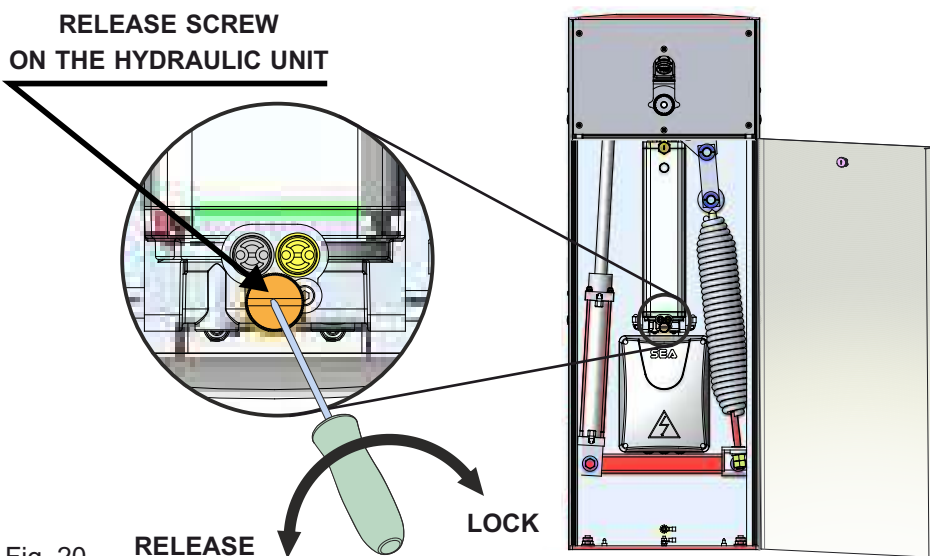

Fig. 20
- Turn the release screw 180° counter-clockwise with a screwdriver (*the screw is on the front side of the hydraulic unit*) - Fig. 20